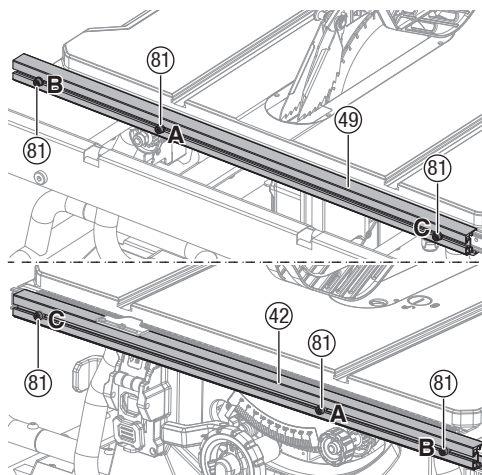

Fig. 10b
- Push down the fence rails lock lever (37) toward the rear of the saw to unlock it.
- Open the rip fence lock levers (3) located on two ends of the rip fence (18), then remove the rip fence (18) from the front and rear fence rails (42, 49).
CAUTION: There are three position screws (81) (position A, B, C) on the each front and rear fence rails (42, 49) to attach rip fence. Position screws (81) (position A and B) use for rip fence on the right of saw blade. Position screws (81) (position C) use for rip fence on the left of saw blade. (Fig. 10b)